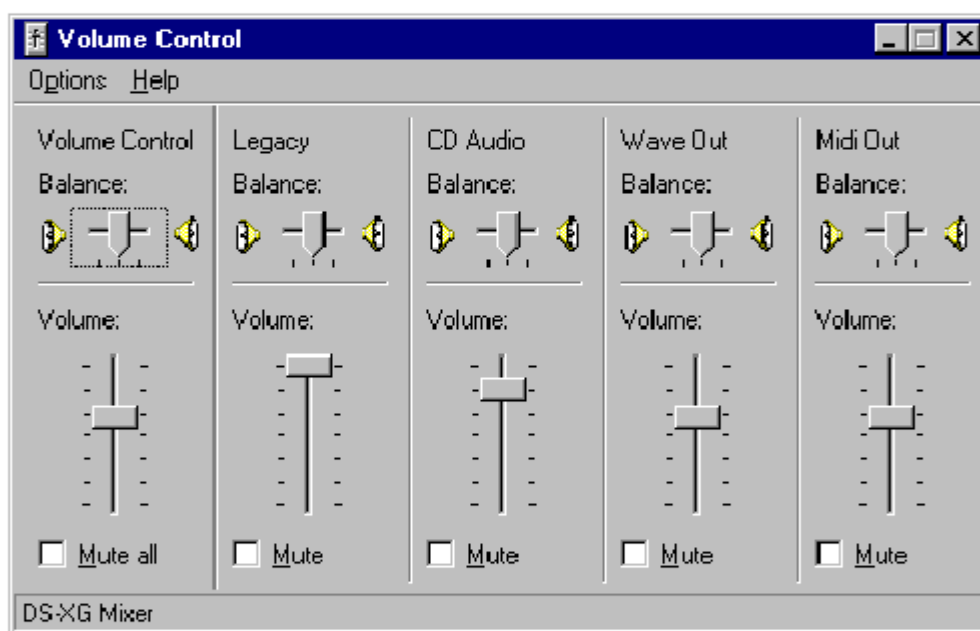

Figure 3-1 The Volume Control Window
2. The DS-XG mixer control starts and the *Volume Control* window is displayed as shown in Figure 3-1 below.